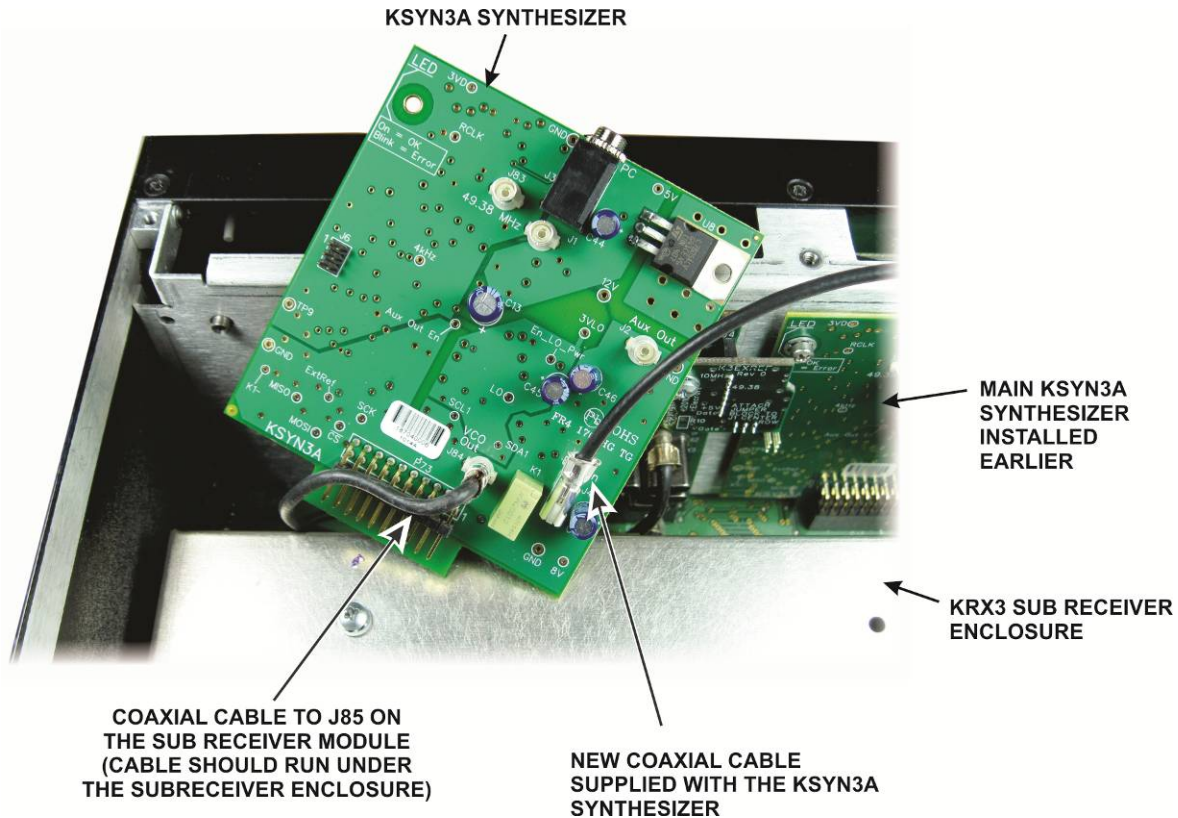
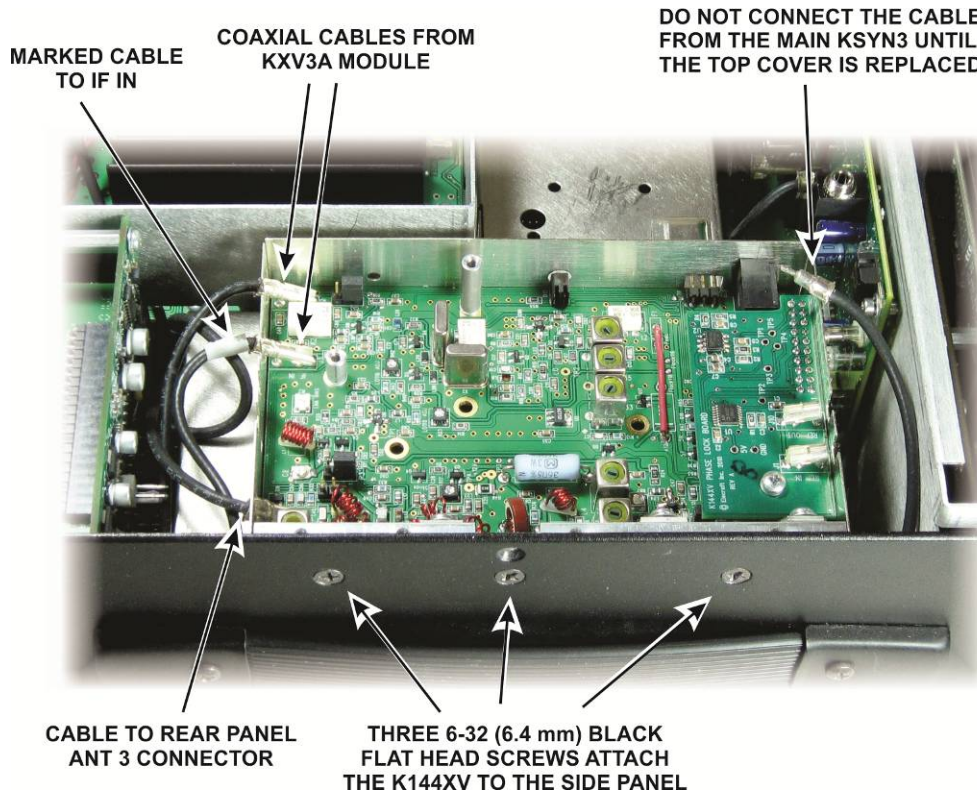

Figure 11. Preparing to Install the Auxiliary Synthesizer.
Figure 14. Replacing the K144XV Module.
1. First attach two coaxial cables to the pc board before installing it as shown in Figure 11. Connecting these now will simplify connecting them later in the tight space between the sub receiver enclosure and the synthesizer.
1. Reconnect any coaxial cables you removed (see Figure 14), but do not connect the REF IN cable from the main KSYN3A.
**⚠** If you have the KRX3 sub receiver installed, be sure you installed the new coaxial cable between J4 on the Auxiliary KSYN3A synthesizer and J2 on the Main KSYN3A synthesizer (See Figure 11 and Figure 14) before continuing. The sub receiver will not work if you leave that cable out.